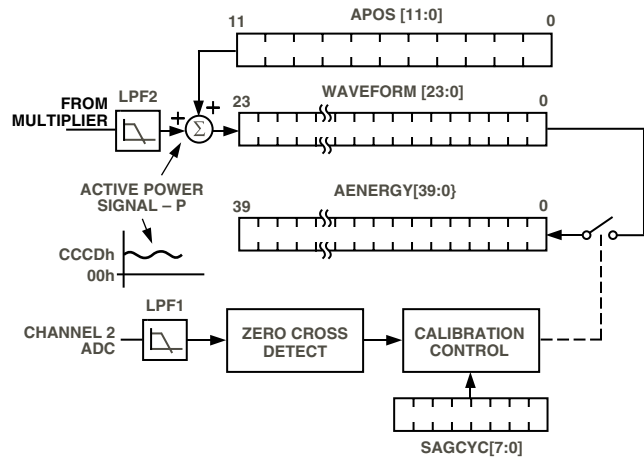

Figure 34. Energy Calculation in Calibration Mode
As mentioned in the last section, the discrete time sample period (T) for the accumulation register is 1.1 μ s (4/CLKIN). With full-scale sinusoidal signals on the analog inputs and the Active Power Gain register set to 000h, the average word value from LPF2 is CCCDh—see Figure 34. The maximum value that can be stored in the Active Energy register before it overflows is 2³⁹ or 7F, FFFF, FFFFh. Therefore the integration time under these conditions is calculated as follows:
By using the on-chip zero-crossing detection on Channel 2 the energy calibration can be greatly simplified and the time required to calibrate the meter can be significantly reduced. To use the zero-cross detection the ADE7756 is placed in calibration mode by setting Bit 7 (CMODE) in the Mode register. In Calibration Mode the ADE7756 accumulates the Active Power signal in the Active Energy register for an integral number of half cycles, as shown in Figure 34. The number of half-line cycles is specified in the SAGCYC register. The ADE7756 can accumulate Active Power for up to 255 half-cycles. Because the Active Power is integrated on an integral number of line cycles, the sinusoidal component is reduced to zero. This eliminates any ripple in the energy calculation. Energy is calculated more accurately and in a shorter time because integration period can be shortened. At the end of an energy calibration cycle the $\overline{\text{SAG}}$ flag in the Interrupt Status register is set; this will cause the $\overline{\text{SAG}}$ output to go active low. If the $\overline{\text{SAG}}$ enable bit in the Interrupt Enable register is enabled, the $\overline{\text{IRQ}}$ output will also go active low. Thus the $\overline{\text{IRQ}}$ line can be used to signal the end of a calibration also. Another calibration cycle will start as long as the CMODE bit in the Mode register is set. Note that the result of the first calibration is invalid and must be ignored. The result of all subsequent calibration cycles is correct.